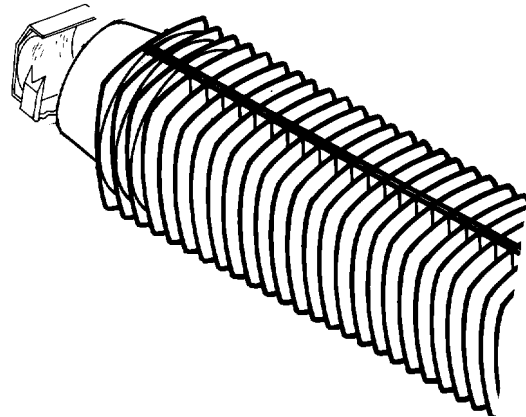

Figure 15. Standard Aperture Reflector Assembly
46. **Standard Aperture Reflector Assembly.** Used for heating solder termination sleeves and shrinking small-diameter tubing. Used on devices having a maximum outside diameter of 1/4 inch and a maximum length of 1 inch and comes with heating tool when ordered (Figure 15).